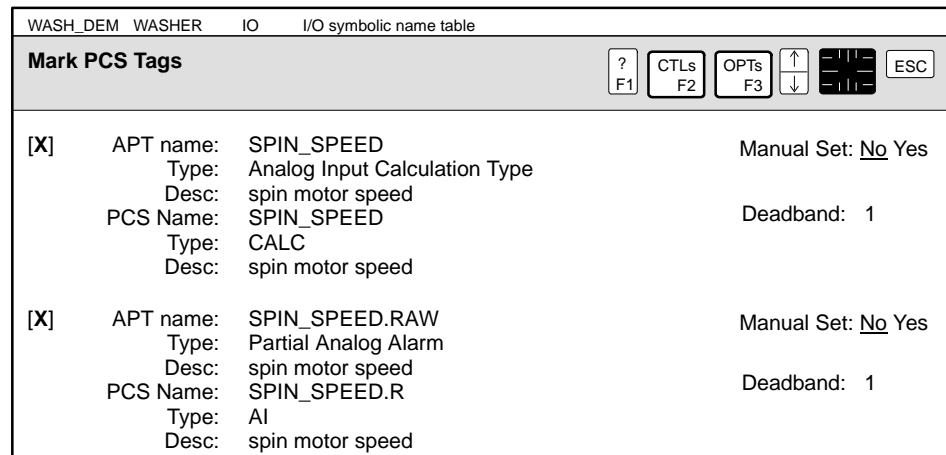

Figure 8-4 Example of Tag Translate Sub-Editor
2. Place an **X** within the brackets to mark the extensions for translation. Figure 8-4 shows the extensions for SPIN_SPEED. Notice that the PCS name for SPIN_SPEED.RAW has been truncated to SPIN_SPEED.R.